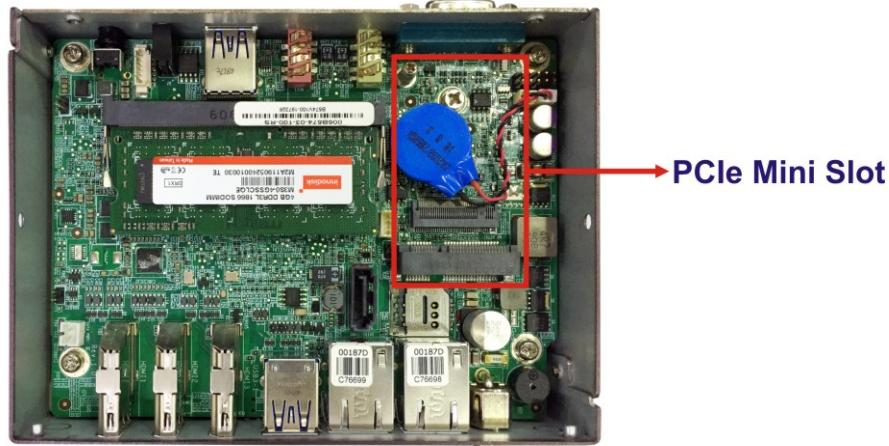

Figure 3-10: PCIe Mini Slot Location
Step 2: Locate the full-size PCIe Mini slot (**Figure 3-10**).